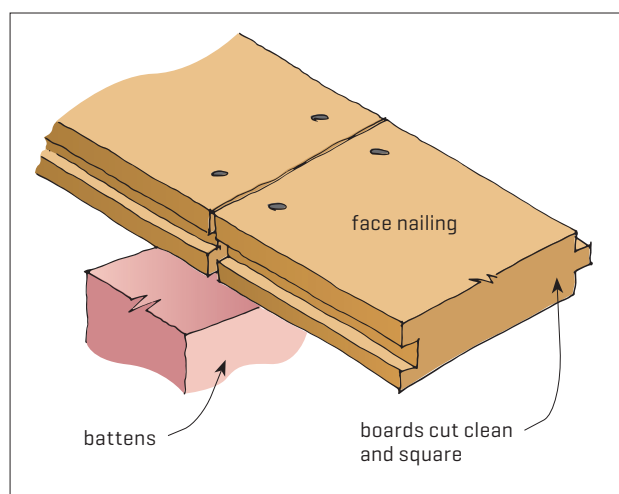

Figure 3. Fixing of plain-end flooring.
- If not end matched (plain end), cut clean and square and make all end joints over battens (Figure 3).